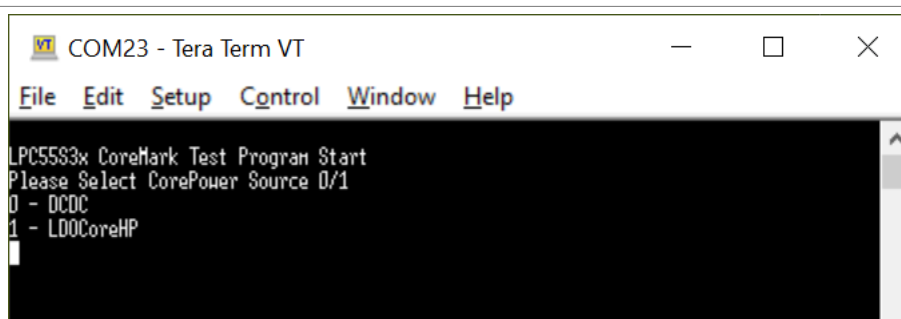

Figure 23. CoreMark test core power source choose menu
- Click the **Reset** button as shown in Figure 23.